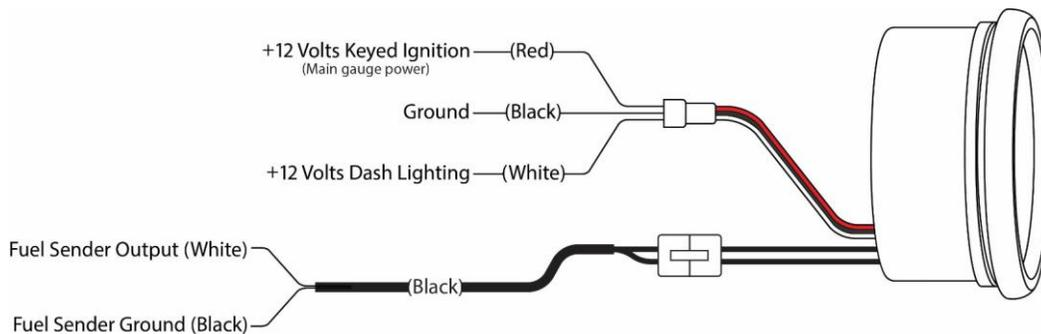

Figure 1
Figure 1 shows the gauge power, ground, and lighting wiring diagram as well as the sending unit wiring. If there is no fuel sender ground, connect that wire to a chassis ground.
2. Install the power, ground, and lighting wires as shown in **Figure 1**. Harness P/N 553-140 (available separately) allows you to unplug and discard the pigtails included with each gauge and connect up to 8 gauges together. This configuration makes it easy when multiple gauges are installed together, allowing the loose power, ground, and lighting wires to only be connected once.
2. Press and release button until the pointer is pointing at the 'F' (**Figure 1**). Hold the button down for 2 seconds. Release the button. The pointer will now oscillate between 'E' and 'F'. You are now in Manual Programming mode.